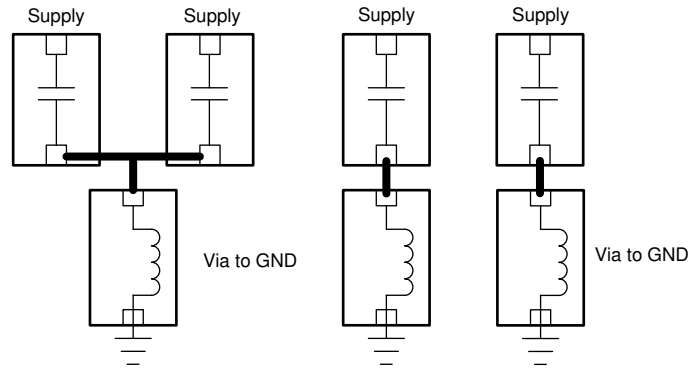

Figure 4-4. Decoupling Capacitors and VIA to Ground
- Each decoupling capacitor should have a separate via to ground to minimize noise coupling (see Figure 4-4)